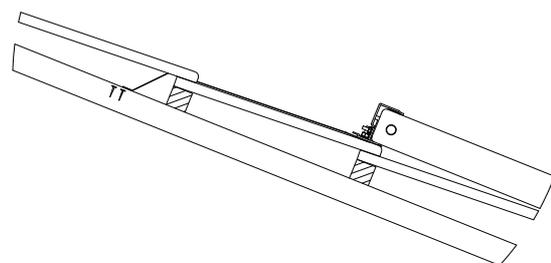

Figure 14 - Replace Tiles
- Replace the tiles and ensure the collector is secure as shown in **Figure 14**.